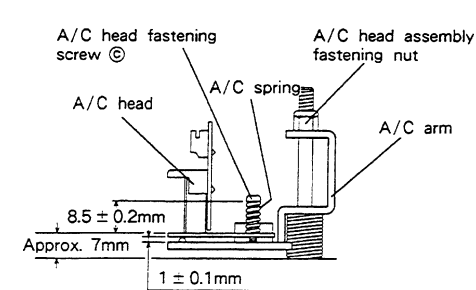

Fig. 2-12-3
Note: Install the A/C head to the A/C arm so that the base surface of the A/C head shall be parallel to the A/C arm, and their spacing and the A/C head installation screw (c) height shall be as specified in Fig. 2-12-3.
- Tighten the A/C head assembly fastening nut so that the base surface of the A/C head shall be about 7mm above the main plate surface. (Refer to Fig. 2-12-3.)